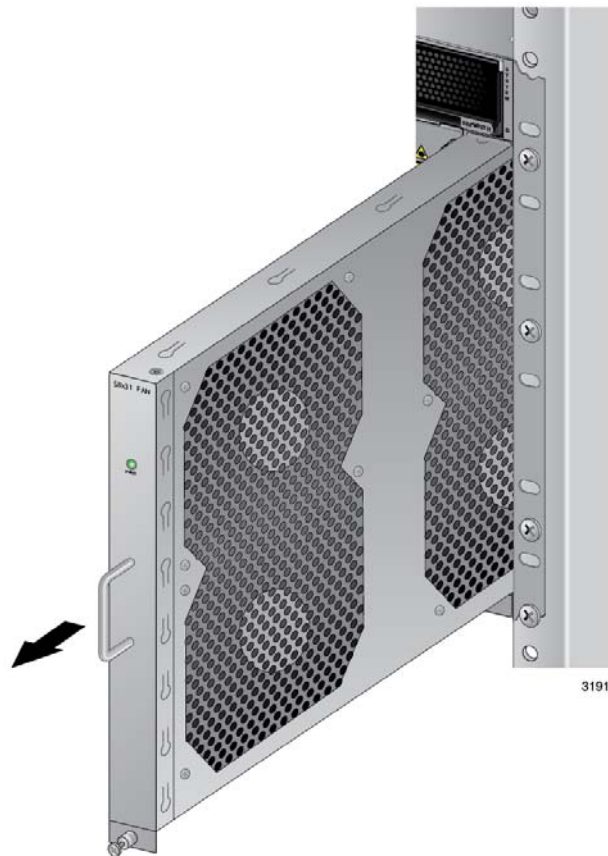

Figure 173. Removing the AT-SBxFAN12 Fan Module from the Chassis
9. After the fans have stopped, slide the module from the chassis. Refer to Figure 173 on page 281.